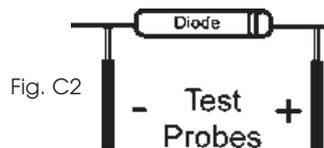

Fig. C2
3. When connected in reverse, with polarity as shown in fig. C2, a reverse current is established. A reading of "000" or near "000" indicates a short circuit, and the diode under test is defective. A reading of "1", indicates a high resistance, and the diode is good.